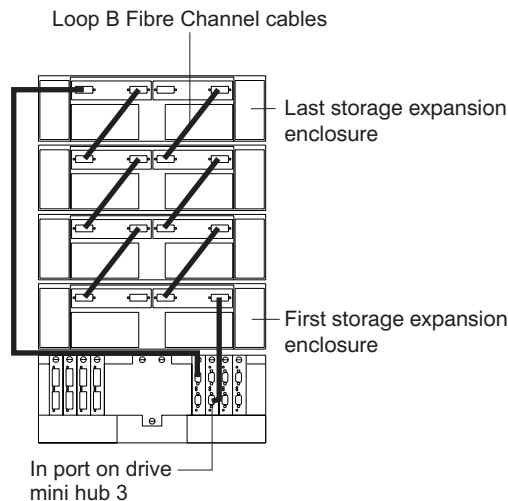

Figure 35. Connecting redundant drive loops to the DS4400 Storage Server
2. Connect drive loop B to the DS4400 Storage Server, as shown in Figure 35. Starting with the first storage expansion enclosure in the loop, connect the Out port on the right ESM board to the In (lower) port on drive mini hub 3. Leave the In port on the right ESM board on the last storage expansion enclosure and the Out (upper) port on drive mini hub 3 unoccupied.